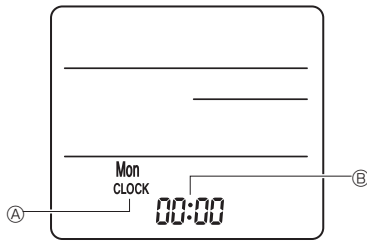

Fig. 6-8
3) Instelling (Klokinstelling) (Fig. 6-8)